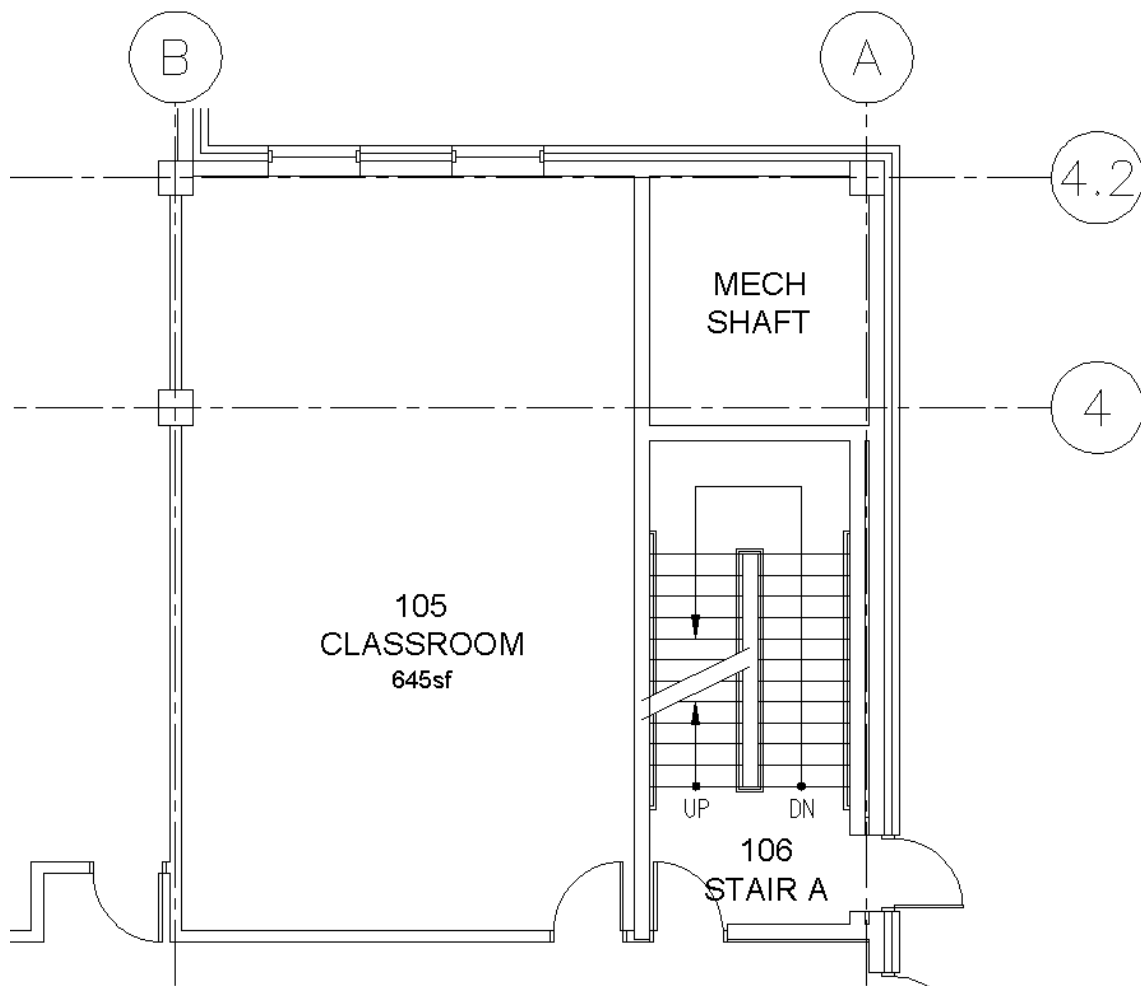
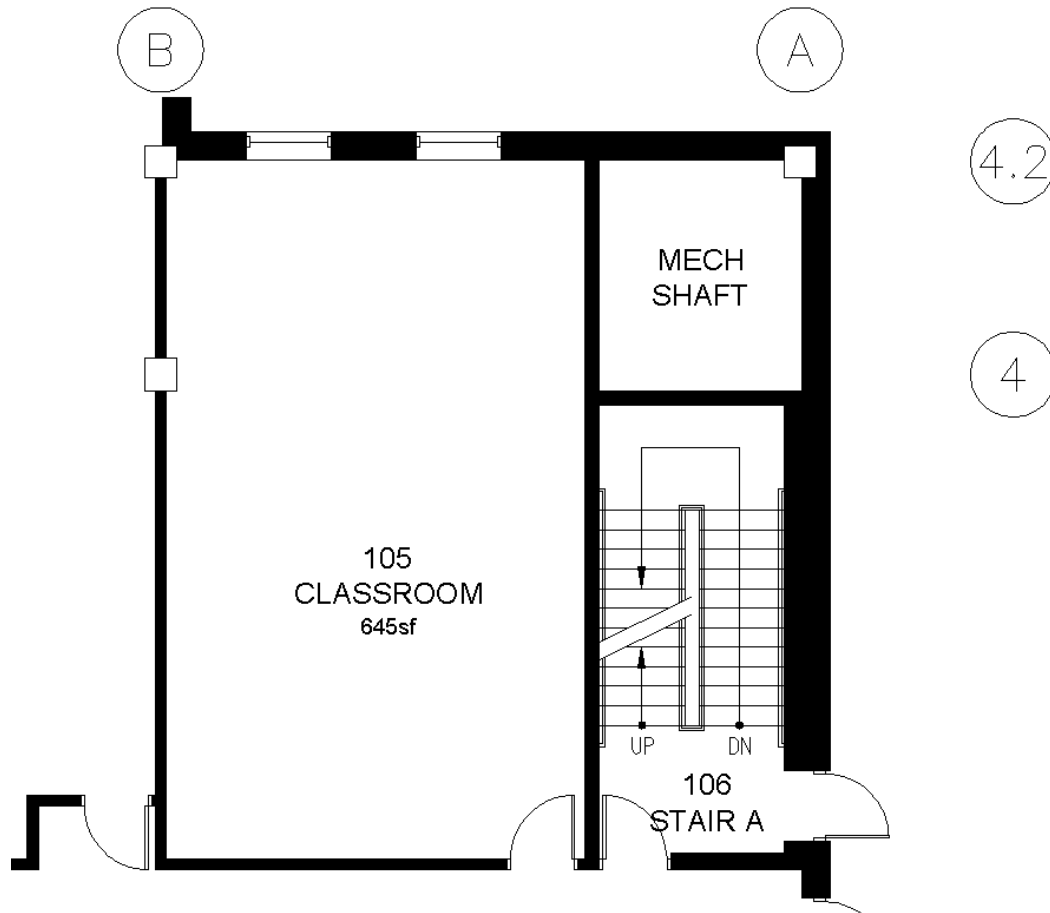

Figure 4-5.1 Plan view near east stair shaft
Figure 4-5.4 Plan view near east stair shaft with walls hatched
Looking at Figure 4-5.1 you can see it would take three picks just to *Hatch* the area between the two windows. Also, the grid lines bisect several walls which would require several extra picks as well. This is one of the main reasons for dividing things up onto separate *Layers*, so you can turn them off when they are not needed.
1. Using the *Layer Off* tool from the **Layers** panel (**Home** tab), turn off the grid lines and the wall cavity lines (Figure 4-5.1).
As you can see in Figure 4-5.4 the walls and window punch out very well compared to Figure 4-5.1. This is also true for items like casework and furniture; they read better!